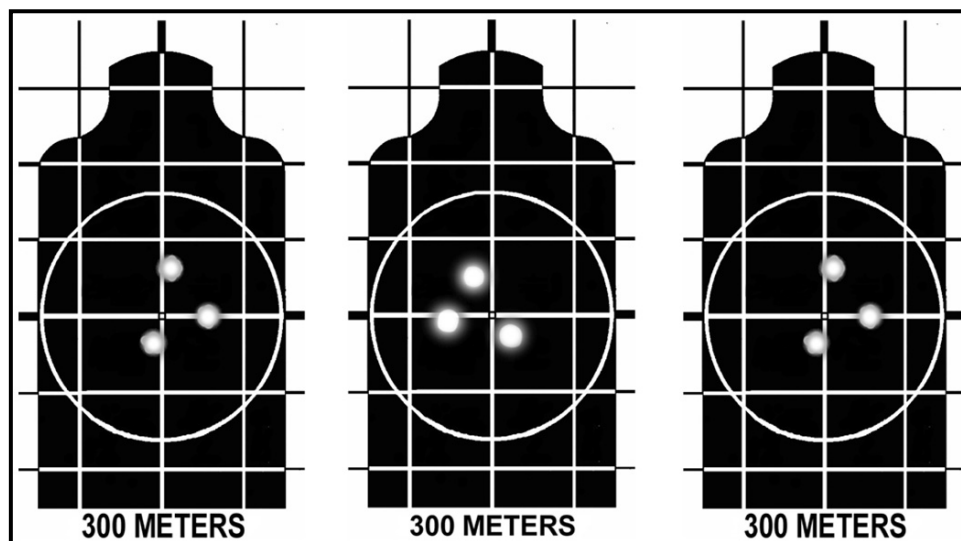

Figure 5-6. Shot groups indicate no firer error.
(2) **2-Centimeter Shot Groups.** When firing a standard service rifle and standard ammunition combination the dispersion pattern may be up to 2 centimeters apart without human error. This dispersion pattern is not considered firer error. The targets shown in Figure 5-6 reflect possible 25-meter shot group performances by standard rifle-ammunition combinations and proper soldier performance. The variances of the standard rifle and standard ammunition must be considered during shot-group analysis and the instructor-trainer must ensure the soldier understands that his weapon or ammunition may not be capable of placing three rounds within a 1-centimeter square.